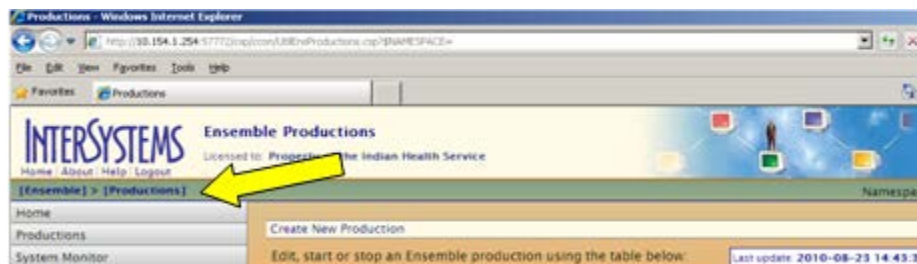

Figure 3-1: Ensemble Management Portal navigation links
Pages in the Ensemble Management Portal have navigation links (often called “breadcrumbs”) located above the display area (Figure 3-1).
After navigating to another page using a menu item, the navigation links shown in Figure 3-1 provide a reference to the page's location within the portal.
3. If the login page is displayed, type your user name and password and click **Login** to open the System Management Portal, as shown in Figure 3-1.